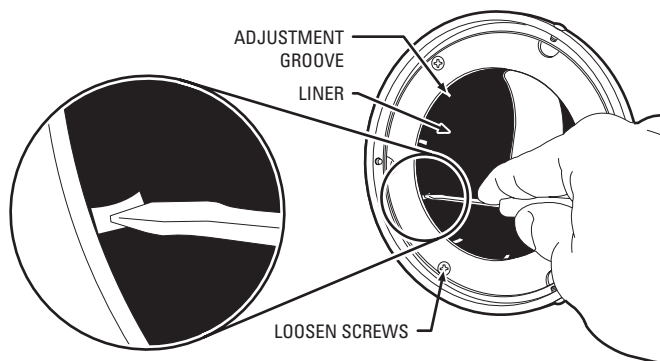

Figure 14. Adjusting the Liner
1. Adjust the liner if installed (refer to Figure 14):